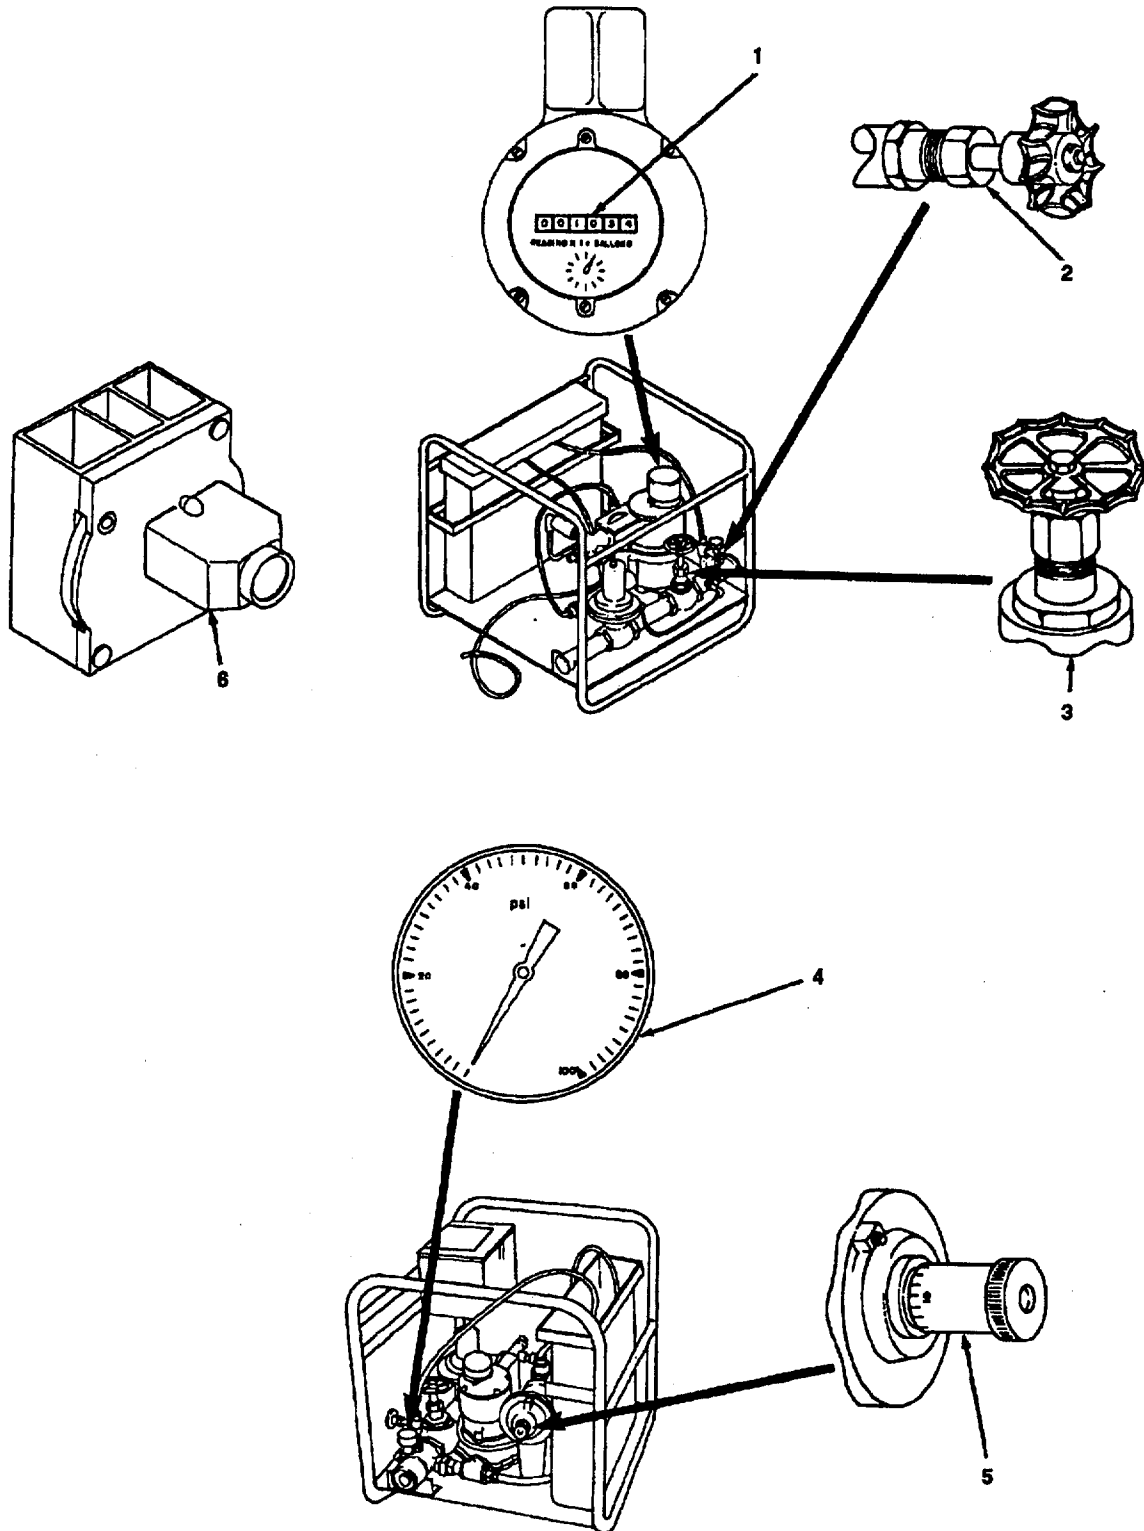

Figure 2-6. Operator's Controls and Indicators for Hypochlorination Unit, Model 1955-1.
2.1.5.2 **Hypochlorination Unit.** See figure 2-6 and table 2-6 for a description of the operator's controls and indicators for the hypochlorination unit, model 1955-1. Reference applicable technical manuals for a description of the operator's controls and indicators for the hypochlorination units, model 1955-3 and model A-506131.